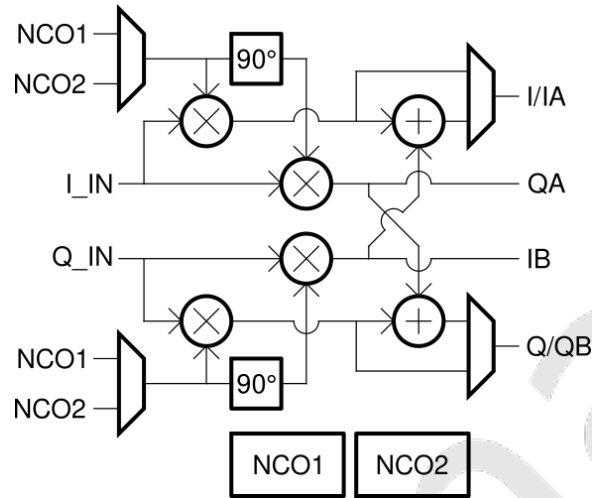

Figure 32: SD1148 DDC.
Figure 32 shows the block diagram the DDC. It consists of two numerically controlled oscillators (NCOs), digital multipliers, adders, and multiplexers. It can be programmed for two modes of operation. Mode 1 provides two independent paths with a real input and a complex (IQ) output. Mode 2 is used when the two ADCs operate as an IQ pair. It accepts IQ input and